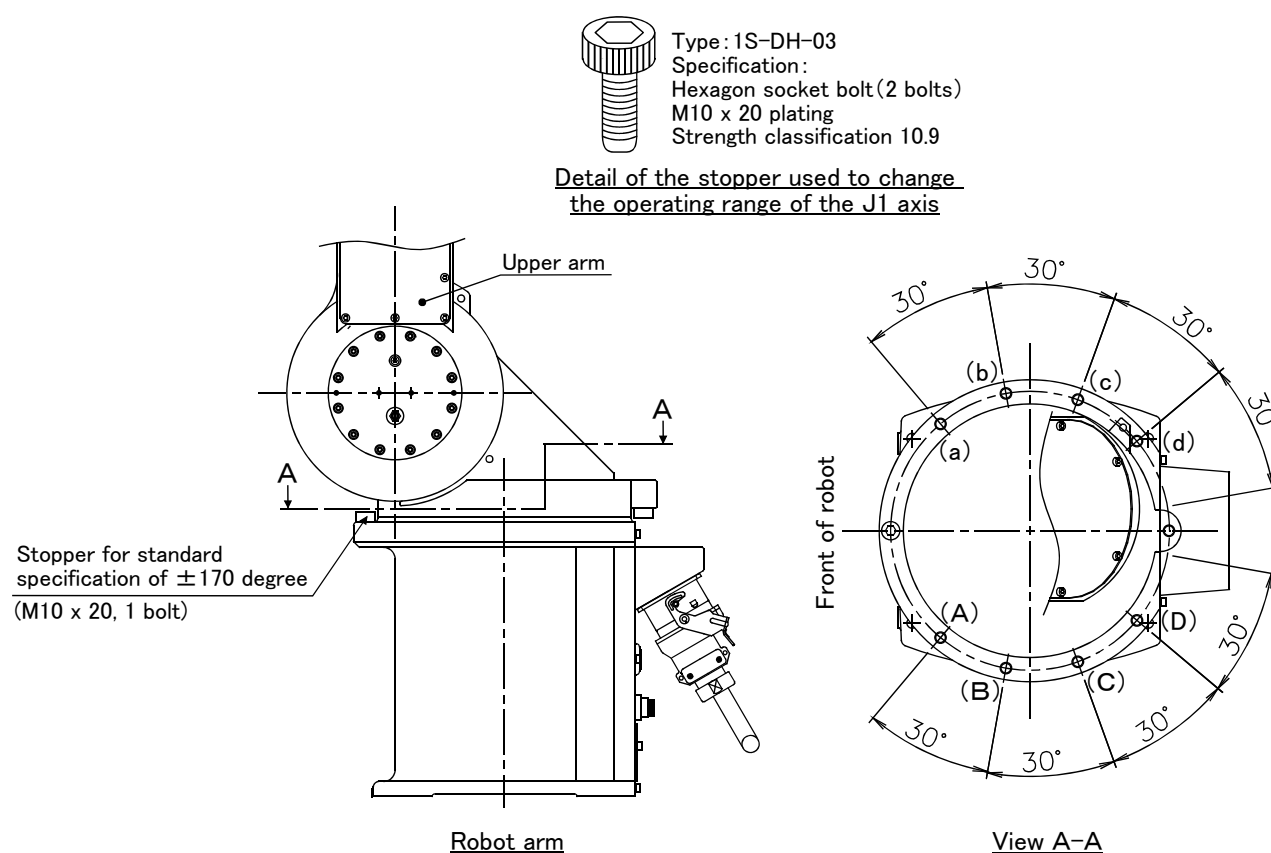

Fig.3-6 : Installation of operating range change option
Note) The insertion position given in the table indicates the insertion position for the operating range change stopper. (Refer to Fig. 3-6.)
- 1) Move the upper arm to the posture as shown in Fig. 3-6 by jog operation.
By referring to Table 3-2 and Fig. 3-6, insert the two stoppers (M10 x 20) used to change the movement range of J1 axis at the angular position to be changed, and fix securely by applying a clamping torque of 70 to 86 N · m.
CAUTION Do not remove the stopper for the standard specification of ± 170 degree shown in Fig. 3-6.